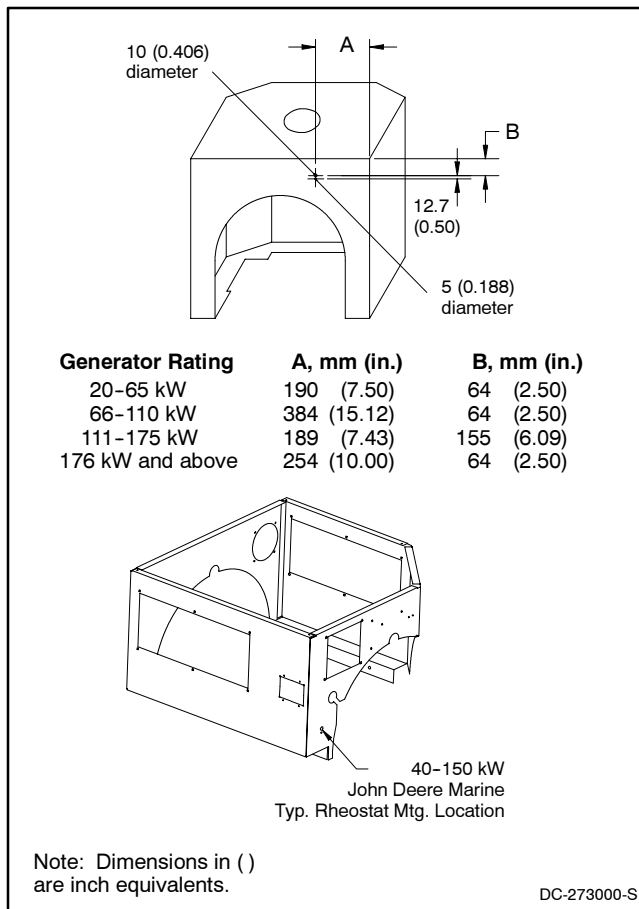
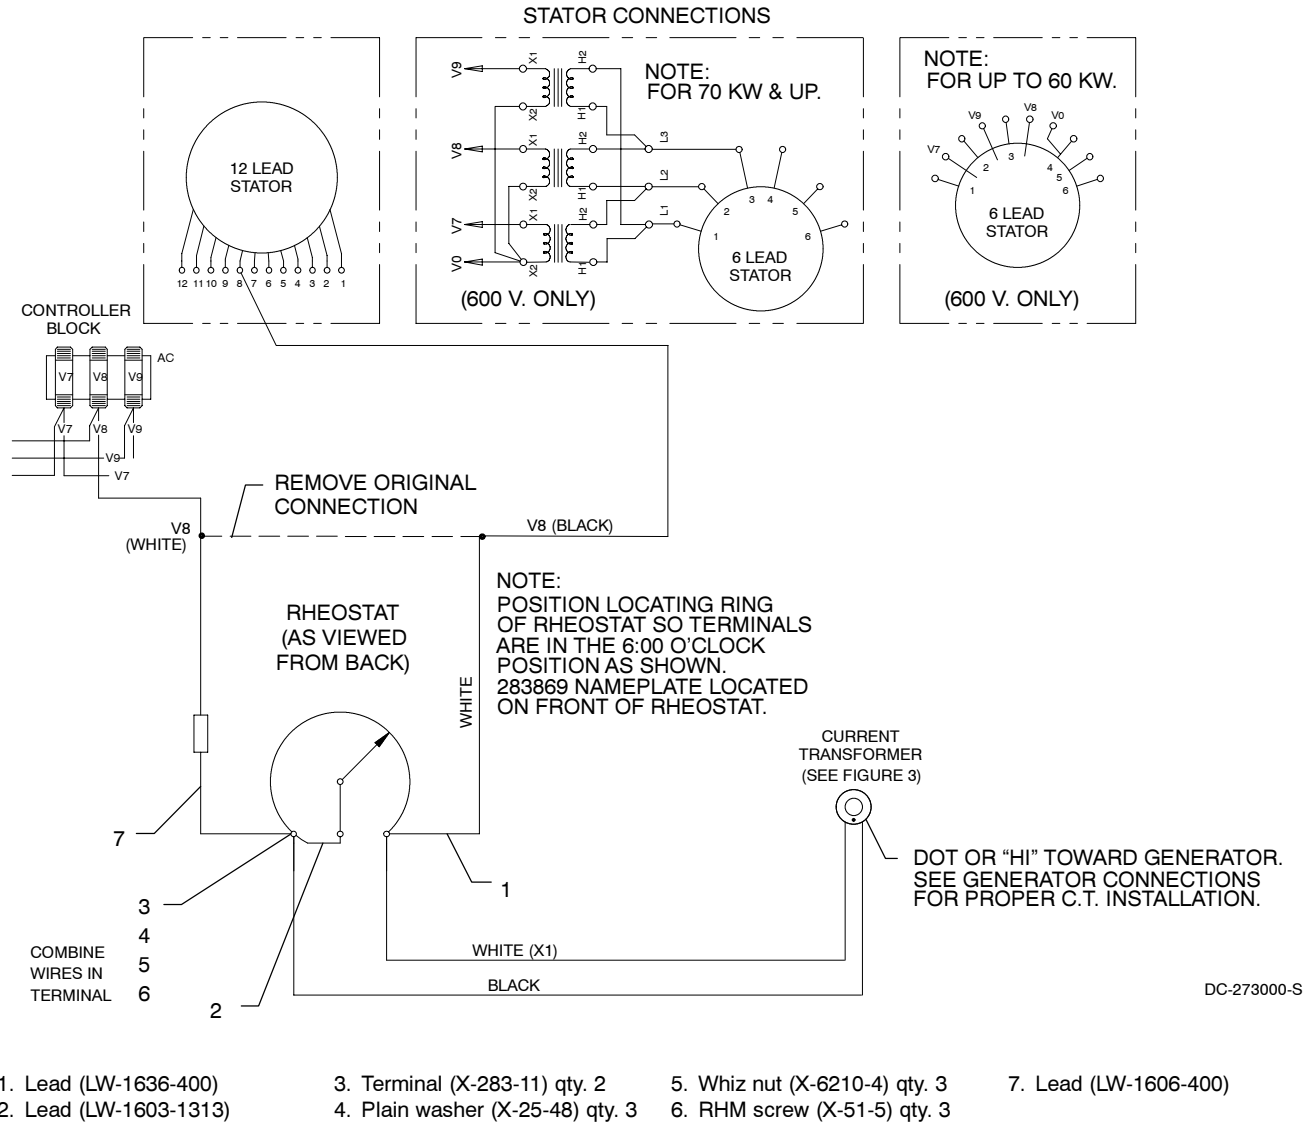

Figure 1 Drilling Instructions
Figure 3 Wiring Diagram
4. Drill mounting holes in the junction box as shown in Figure 1.
5. Install rheostat (X-467-4) through the mounting hole and align the tab with the smaller hole. Install nameplate (283869), lock washer, and nut. Attach the knob. See Figure 1 and Figure 3.
7. Attach lead (LW-1603-1313) to the center position of the rheostat with one screw (X-51-5), plain washer (X-25-48), and whiz nut (X-6210-4). See Figure 3.
10. Attach the lead assembly from step 9 and lead (LW-1603-1313) from the rheostat's center position to the rheostat as shown in Figure 3 with one screw (X-51-5), plain washer (X-25-48), and whiz nut (X-6210-4).